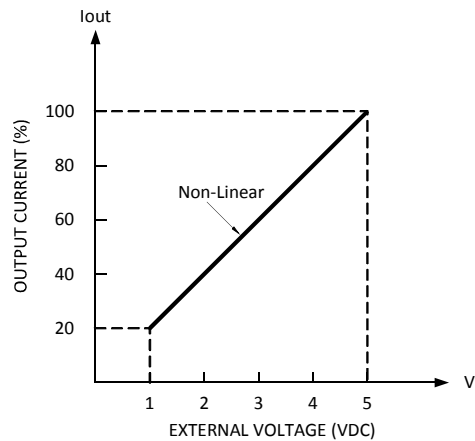

Fig 4.2
(3) Trimming of output current is allowable between 20~100%(Typ.) of the rated output current as shown in Fig 4.2.